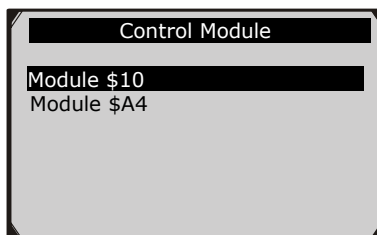

Figure 5.2
- If more than one module is detected, you will be prompted to select a module before testing. (Figure 5.2 )